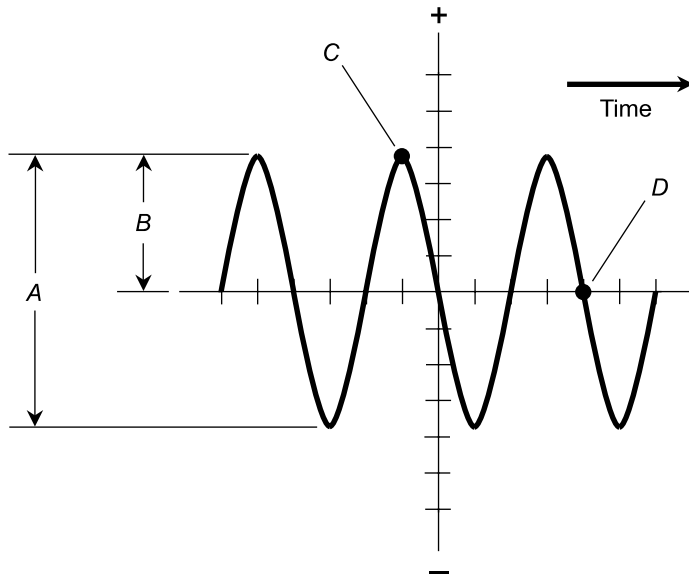

Fig. Exam-2. Illustration for Final Exam Questions 23 through 27.
23. Figure Exam-2 is a graph or display of
24. Which of the labeled points or spans in Fig. Exam-2 shows a wave trough?
25. Which of the labeled points or spans in Fig. Exam-2 shows the peak-to-peak amplitude?
26. Which of the labeled points or spans in Fig. Exam-2 shows a positive-going zero point?
27. Which of the labeled points or spans in Fig. Exam-2 shows the rms amplitude?